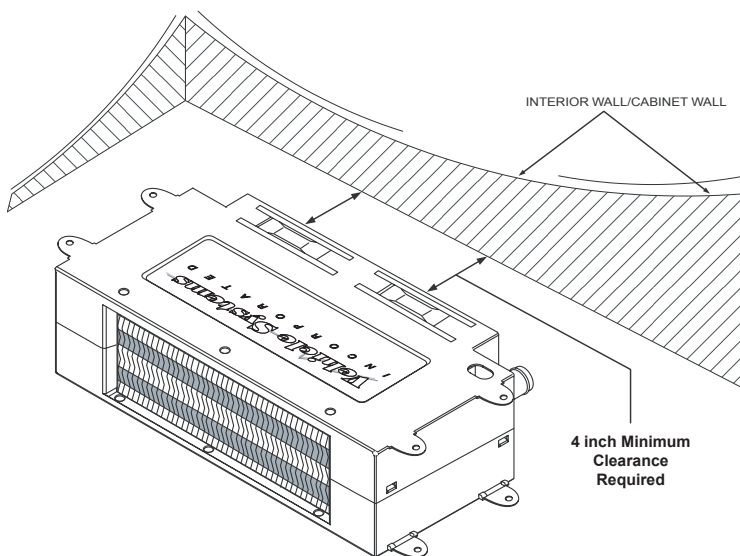

Figure 9
- Reference Figure 9 for clearance information.